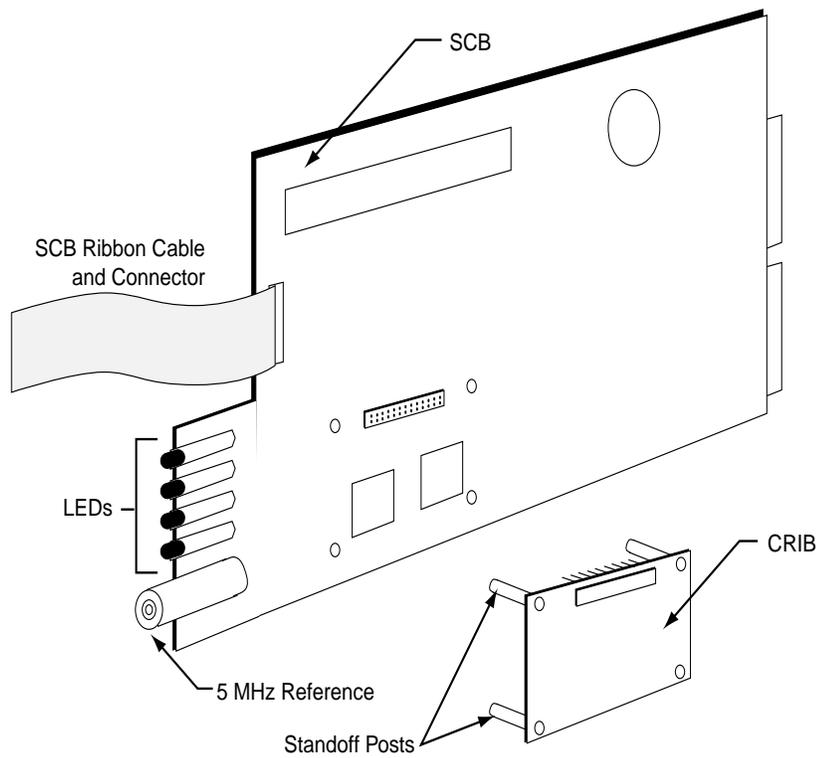

Figure E-6: Location of the Standoffs on the CRIB for an SCB
6. In the package, locate the CRIB standoffs. Pinch each standoff and insert it into one of four standoff holes in the CRIB (see Figure E-6).